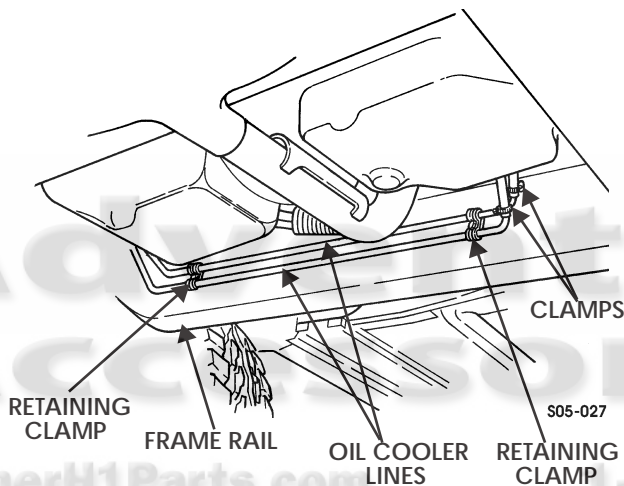

Figure 5-85: Oil Cooler Lines
1. Loosen clamps and disconnect front cooler lines at frame rail (Figure 5-85).